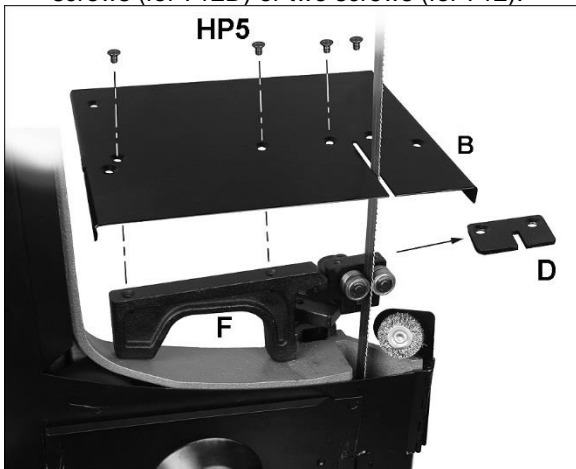

Figure 8-4: installing cutting plate
- 6) Place smaller support (F, Figure 8-4) into groove of blade guide, and adjust height of blade guide until support sits level on bow frame, as shown (712D only).
- 7) Remove deflector plate (D).
- 8) Install table plate (B) and secure with four screws (for 712D) or two screws (for 712).